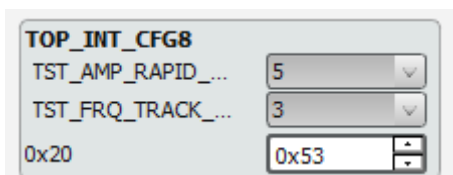

Figure 24: TOP\_INT\_CFG8
2. Set the Rapid Stop threshold at which DA7280 stops driving while braking in the field **TST\_AMP\_RAPID\_STOP\_LIM** in the register **TOP\_INT\_CFG8** (Figure 24). This register is in the TOP tab of the GUI or can be found using the search box in the GUI at the bottom of the screen. The rapid stop threshold mechanism is based on BEMF sensing and a higher register value corresponds to a higher BEMF voltage threshold.